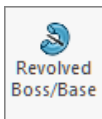

**Fig. 5**
Step 5. Click **Smart Dimension** (S) on the Sketch toolbar.
Step 6. Add dimensions, **Fig. 5**. Dimension the 16.8 at the rim to the **end lines** and not to the endpoints.